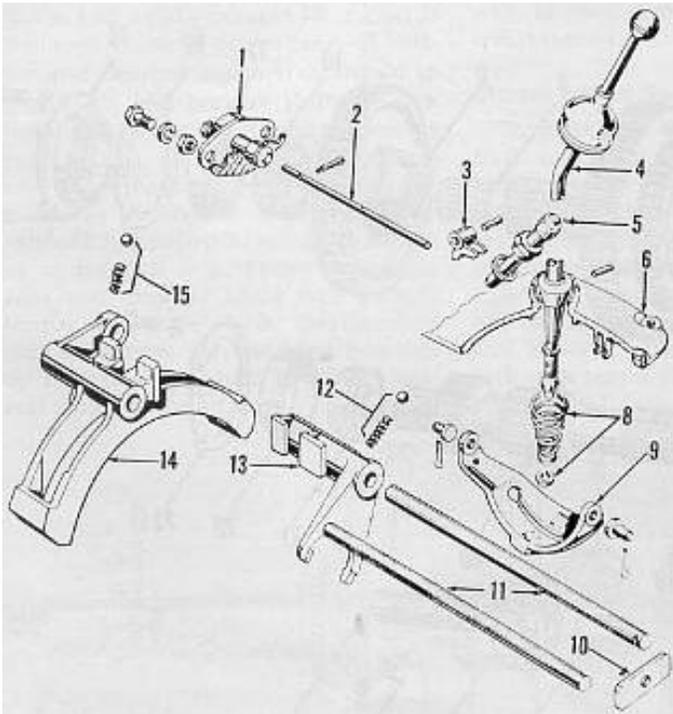

Fig F052 - Gear shifter mechanism on models 2N-9N. Detailed changes were made in the design beginning with tractor serial 12500.
71. **SHIFTER RAILS AND FORKS.** Rails and forks may be removed without performing a front section split after steering gear is off and rear section is separated from transmission case as outlined in paragraph 70A. Remove gear shifter rail lock plate (10 – Fig. F052). Pull shifter rails (11) out rearward and remove forks (13 & 14) being careful not to lose detent balls and springs (12 & 15). Renew worn or damaged parts and reinstall in reverse order of disassembly.